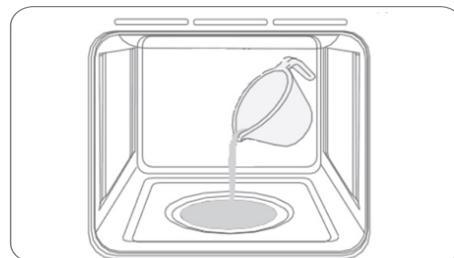

Fig. 4.6
3. Pour 40 ml of water into the base of the cavity as shown in Fig 4.6.